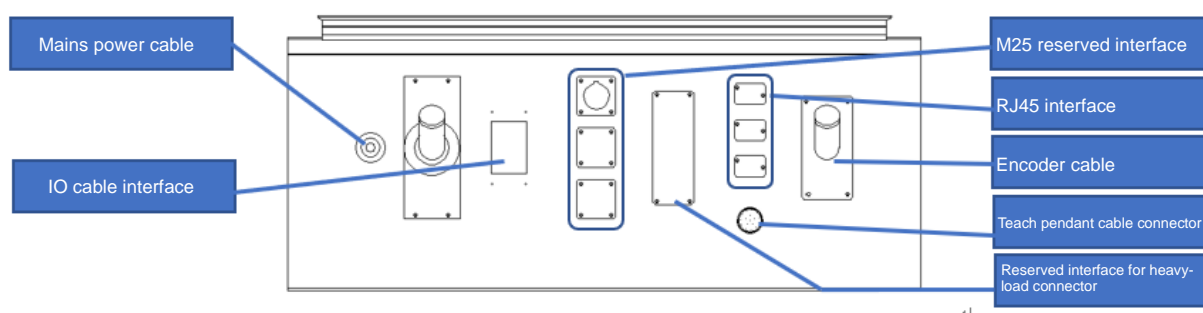

Figure 3.1 External interface
- Figure 3.1 External interface